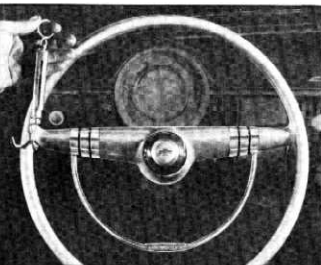

Fig. 4—Checking Load on Steering Gear
- Using J-544-A Steering Gear Checking Scale, measure the pull at the rim of the wheel which is required to keep the wheel in motion. This should be between $\frac{3}{4}$ and $\frac{5}{8}$ pounds (fig. 4).